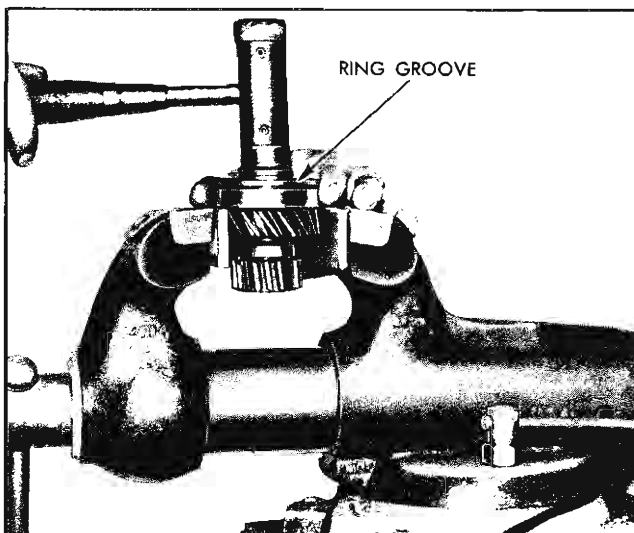

Fig. 7-28 Removing Clutch Gear Bearing
3. Place outer race of bearing on top of vise, and tap out clutch gear with a soft hammer (Fig. 7-28).
Installation of new bearing can be accomplished by tapping or pressing new bearing onto clutch gear with a suitable tool (such as J-6133) used on the bearing inner race. Ring groove should be away from gear (Fig. 7-28).